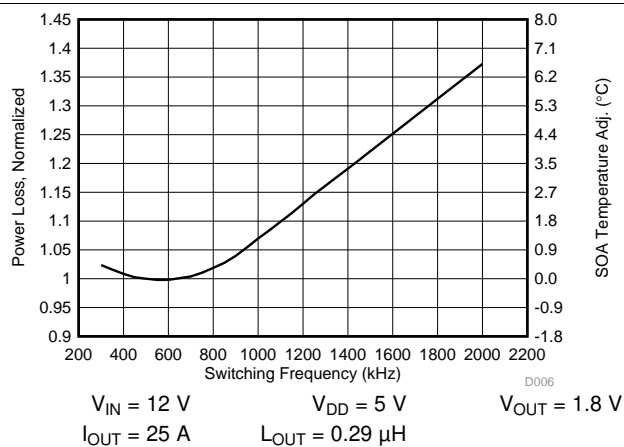

Figure 8. Normalized Power Loss vs Frequency
- Normalized Power Loss for switching frequency  $\approx$  1.02 (Figure 8)
- SOA adjustment for switching frequency  $\approx$  0.3°C (Figure 8)